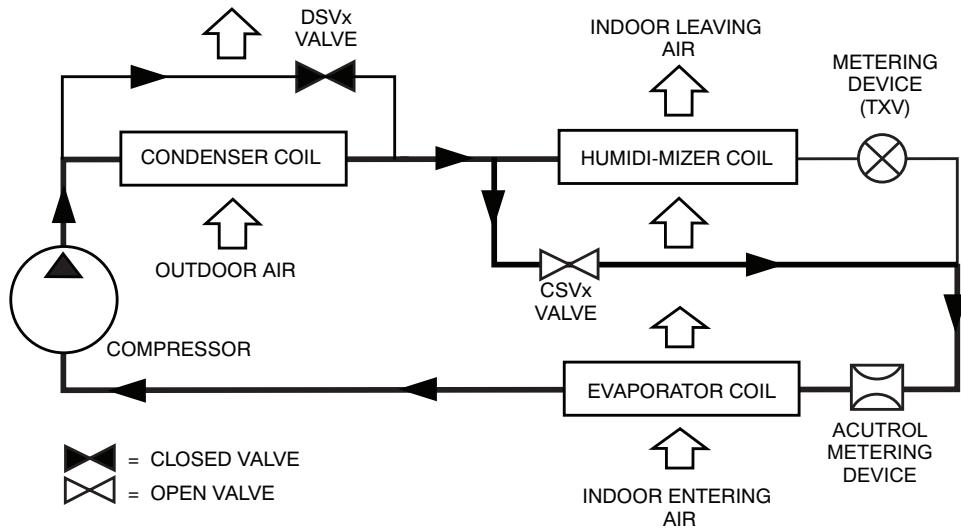

Fig. 74 - Normal Cooling Mode (Sizes 04 / 07 - Type 1) - Humidi-MiZer® System with Single Stage Cooling (Sizes 08-14 have two parallel circuits)
Normal Cooling Mode: When there is only a single cooling demand with thermostat Y1 calling, the single circuit will operate in Normal Cooling Mode. The Cooling Liquid Valve (CSV) is Normally Open (NO) and energized. The Reheat Discharge Valve, DSV, is Normally Closed (NC) and remains closed during the Cooling Mode. See Fig. 74.
Normal Cooling Mode: When there is only a cooling demand (Thermostat Y1 alone or with Y2), one or both circuits will operate in Normal Cooling Mode. The CSV1 and CSV2 (on size 14, CLV1 and CLV2) valves are de-energized and open allowing liquid to flow around the Humidi-MiZer coil and directly to the unit's TXVs and Evaporator Coil. The Reheat Discharge Valves, DSV1 and DSV2, (on size 14, RDV1 and RDV2) are de-energized and remain closed during the Cooling Mode. See Fig. 74 for illustration of each circuit's operation.